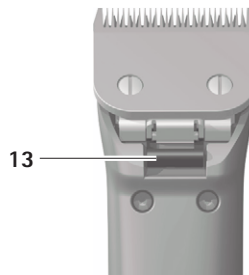

Fig. 4
- Press shearing head lock 13, see Fig. 4.